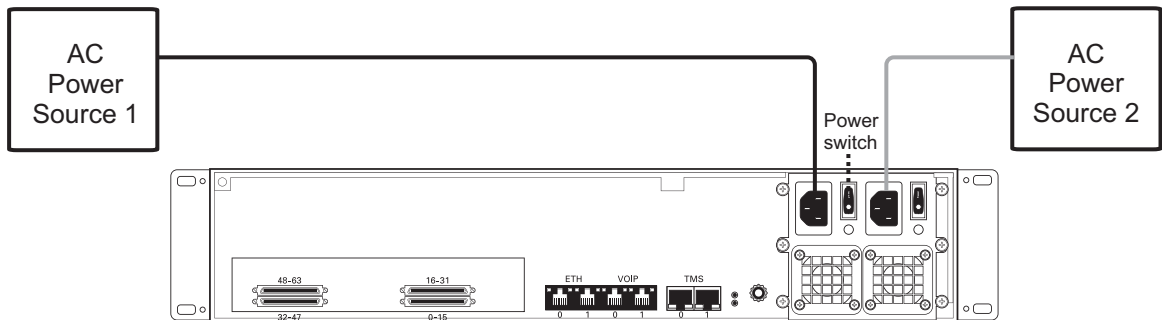

Figure 4.11 AC Power Connection
1. Connect an AC power cable between the AC connector of the 7800 Telecom Unit and an AC supply. See figure 4.11 on page 36.
Note If the 7800 Telecom Unit features a second power supply and it is not connected to an AC power source, press the green button located at the rear of the unit to disable the audible alarm. See figure 4.11 on page 36.